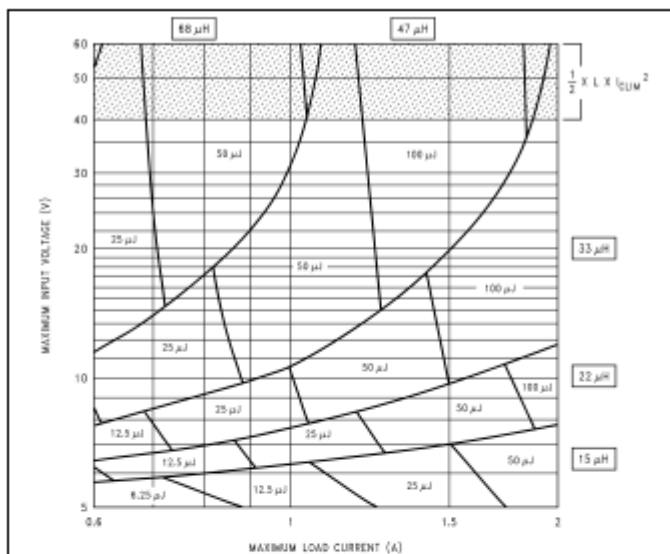
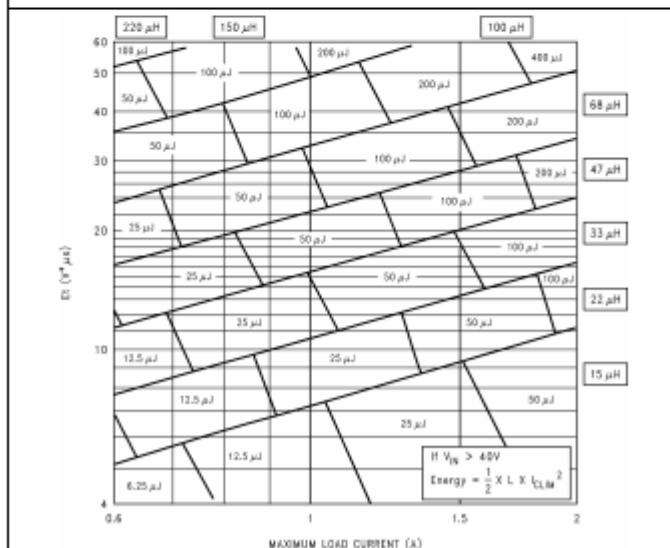

Figure 28. LM2592HV-3.3
Figure 30. LM2592HV-ADJ
See application note AN-1197 (SNVA038) for detailed information on selecting inductors for buck converters. For a quick-start, the designer may refer to the nomographs provided in Figure 28 to Figure 30. To give designers more options of available inductors, the nomographs provide the required inductance and also the energy in the core expressed in microjoules (μJ), as an alternative to just prescribing custom parts. The following points must be highlighted:
If $V_{IN} > 40$ V, the inductor must be sized to handle e_{CLIM} instead of the steady energy values. The worst case I_{CLIM} for the LM2592HV is 4 A. The energy rating depends on the Inductance. See Figure 28 through Figure 30.
- Figure 30 shows the inductor selection curves for the Adjustable version. The y-axis is 'Et', in $V\mu s$. It is the applied volts across the inductor during the ON time of the switch ($V_{IN} - V_{SAT} - V_{OUT}$) multiplied by the time for which the switch is on in μs . See Example 3.
- Because input voltage is less than 40 V, a first pass inductor selection is based upon inductance and rated maximum load current. Choose an inductor with the inductance value indicated by the nomograph Figure 30 and a current rating equal to the maximum load. But first calculate Et for the given application. The duty cycle is calculated in Equation 5:
Therefore, looking at Figure 28 we quick-select a 47- μH , 2-A inductor (designed for 150-kHz operation) for this application.
2. Confirm that the inductor is rated to handle 200 μJ (see Figure 30) by the procedure shown in AN-1197 (SNVA038) and that the losses are acceptable. (If the DC input voltage is greater than 40 V, consider e_{CLIM} as shown in Example 2.)